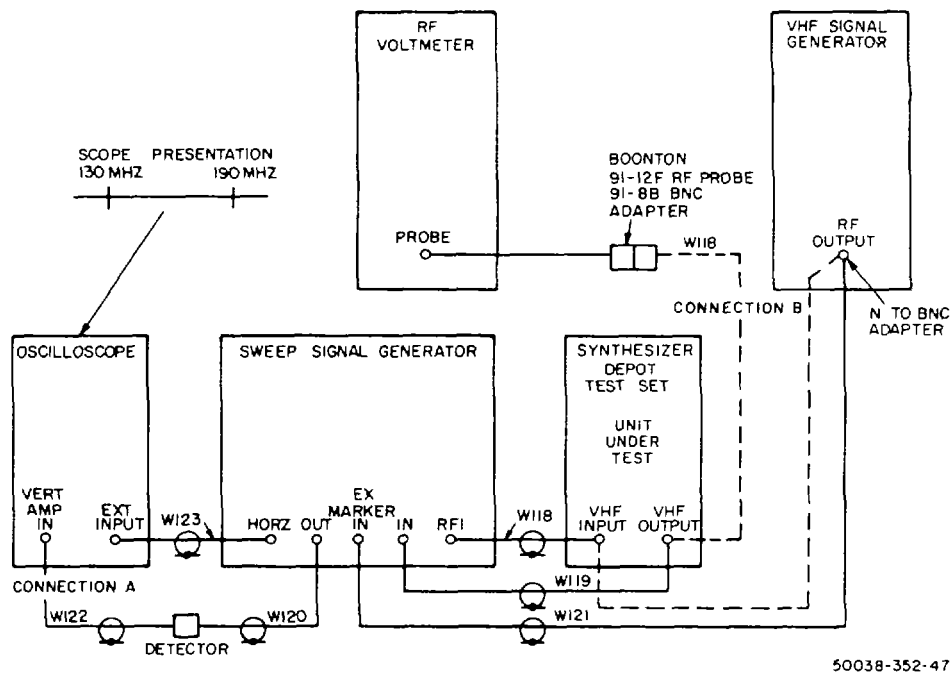

Figure 1. Vhf amplifier 1A2AR2 calibration interconnection diagram.
(1) Interconnect unit under test and calibration equipment as shown in figure 1 CONNECTION A.
(6) Observe that oscilloscope trace is flat and symmetrical for sweep from 130 to 190 MHz as illustrated in figure 1.
(7) Remove RF cables from unit under test VHF INPUT OUTPUT connectors.
(8) Connect vhf signal generator RF OUTPUT connector to unit under test VHF INPUT connector (fig 1 CONNECTION B)
(9) Connect RF voltmeter to unit under test VHF OUTPUT connector
(10) Set vhf signal generator for 130 MHz at 75 millivolt operation.
(11) Set RF voltmeter to 1000 millivolt scale.
(12) Increase vhf generator frequency in 10MHz steps (each setting at 75 millivolts) from 130 MHz to 190 MHz (13) Observe that RF voltmeter indicates 400 millivolts minimum for each setting